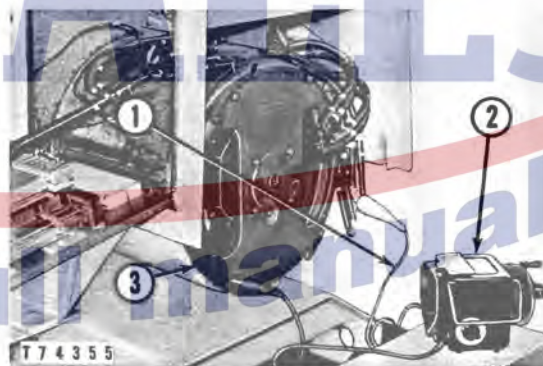

FIG. 3. STATOR WINDING INSULATION TEST
2. See Fig. 3. Disconnect the generator leads from the load and insulate the neutral (if the generator is a 10 lead wire generator, connect leads **T1** to **T7**, **T2** to **T8**, **T3** to **T9** and **T4**, **T5**, **T6** to **T0** — these four connected leads are neutral). Disconnect the stator from terminals **22**, **24** and **26**. With positive lead (1) of megohmmeter (2) connected to either **T1**, **T2** or **T3** and the negative lead connected to generator cover, measure the insulation of the stator winding. The insulation should measure no less than 1 megohm for generators rated under 600 volts and no less than 3 megohms for generators rated up to 2400 volts.